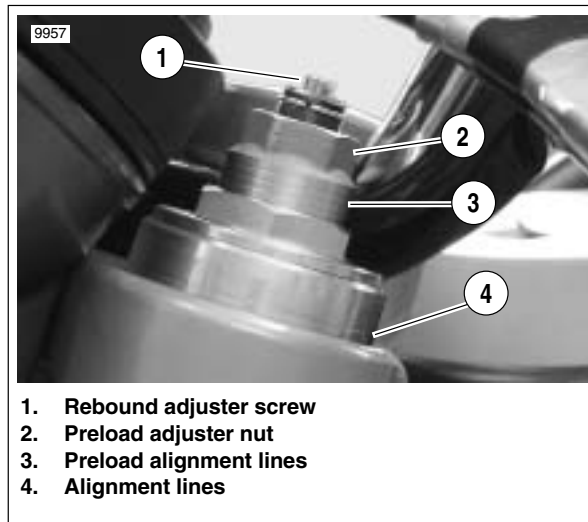

Figure 2-76. Front Fork Preload And Rebound Adjuster
4. See Figure 2-76. Position fork with alignment lines (4) visible and reflector facing to the side and tighten the lower fork clamp.